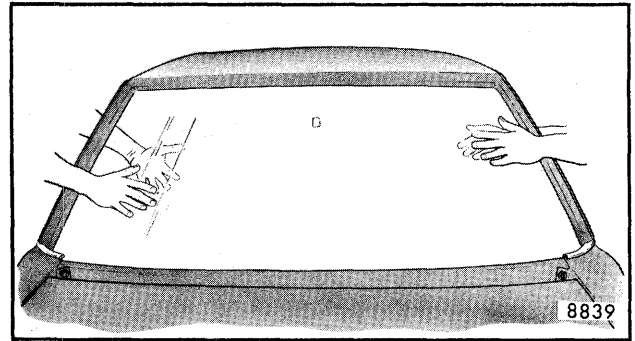

Fig. 11-10-Glass Installation
8. With aid of helper, lift glass into window opening. On back window installations it will be necessary to use suction cups to position glass in opening. Windshield glass can be positioned without aid of carrying devices. As shown in Figure 11-10, carry glass with one hand on in-
5. With aid of helper, lift glass into window opening. On back window installations it will be necessary to use suction cups to position glass in opening. The windshield glass can be positioned without aid of carrying devices as described in step 6 (Fig. 11-10).
15. With glass centered at opening, place glass on lower supports and use tape guides applied in step 9, to carefully place glass in proper position. On windshield installation, guide lower outer surface of glass along rear edge of front fenders to avoid smearing fresh adhesive material on instrument panel (Fig. 11-10). Make certain glass is properly aligned to tape guides on pillars, and positioned on lower metal supports. Apply light hand pressure to "wet-out" adhesive material and obtain bond to body opening. Using small disposable brush or flat-bladed tool, paddle material around edge of glass to ensure watertight seal. If necessary, paddle additional material to fill voids in seal.